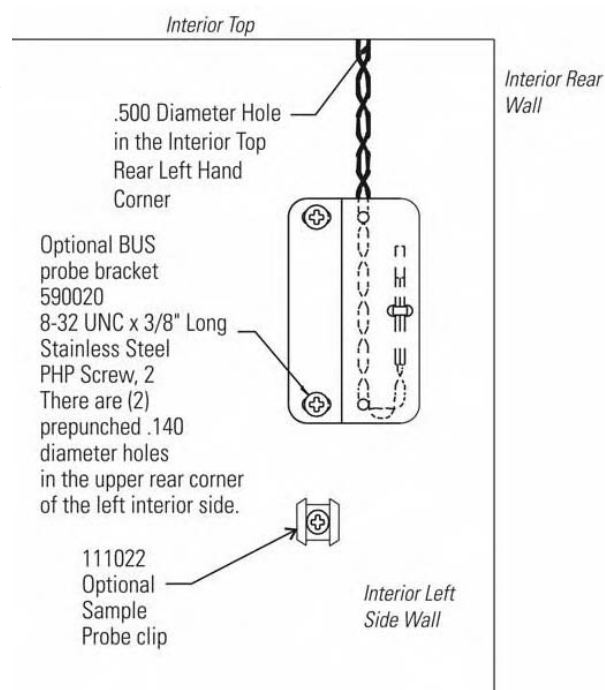

Figure 5-4. Mounted probe clip
1. Locate the 0.500" pre-punched hole in the upper left hand back corner of the chamber ceiling. Remove the tie wrap securing the coiled probe/solenoid harness. Uncoil the probe lead and run the probe tip (approximately 12") down through 0.500" porthole (Figure 5-4).
3. Tap #8-32 the two pre-punched holes located on the interior left wall of the freezer. Mount the bracket. Figure 5-4 shows the Back-Up probe mounted on the interior left side wall of the freezer.